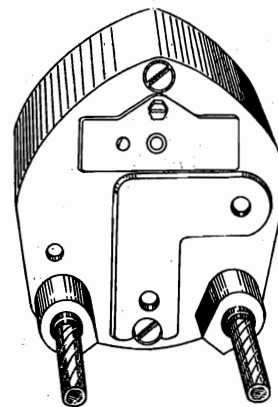
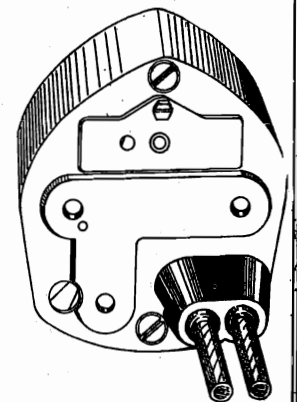

FIG. 3
FIG. 4
There are two basic type controls. The type used the most has direct drive and is shown in Fig. 3. The control knobs fasten on to the control ends of the flexible shafts. The control shown in Fig. 4 uses a gear type drive for the volume control shaft. In this type control, the knobs fasten on to short shafts or stubs in the control head and the shafts are coupled to these stubs. The volume control is connected through a gear train, while the tuning control shaft is coupled direct.
The early controls of this type had smaller openings in the rear for coupling the shaft casings, since the casings were straight ended (without the usual swelled or bell end.) These holes were enlarged later on to take the large bell end casing, as shown in Fig. 4, but the same part number was retained for the control housing. When ordering a control housing of the gear type and the one with the small casing holes is required, be sure to note this on the order.
DIRECT DRIVE CONTROLS—(See Fig. 3)
**GEAR DRIVE CONTROLS—(See Fig. 4)